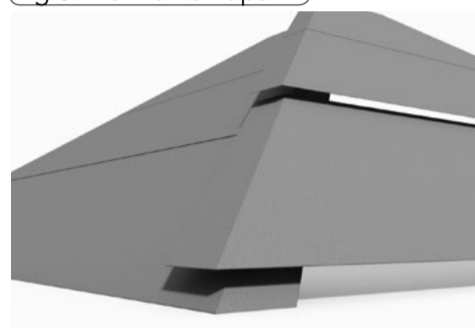

fig 7: Hip laps
8. The Danelaw LR150 should extend over any hips and overlap the underlay on the opposite side of the hip by not less than 150mm beyond the junction line (fig. 7). Alternatively, lay a strip not less than 600mm wide along the length of the hip and over the underlay on either side.